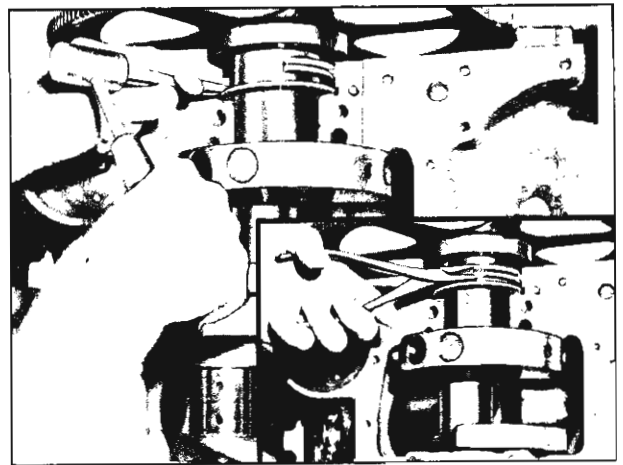

Fig. 106—Removing and Installing Oil Seal
5. To replace the upper half of the seal, use a small hammer and tap a brass pin punch on one end of seal (fig. 106) until it protrudes far enough to be removed with pliers as shown in Figure 106.